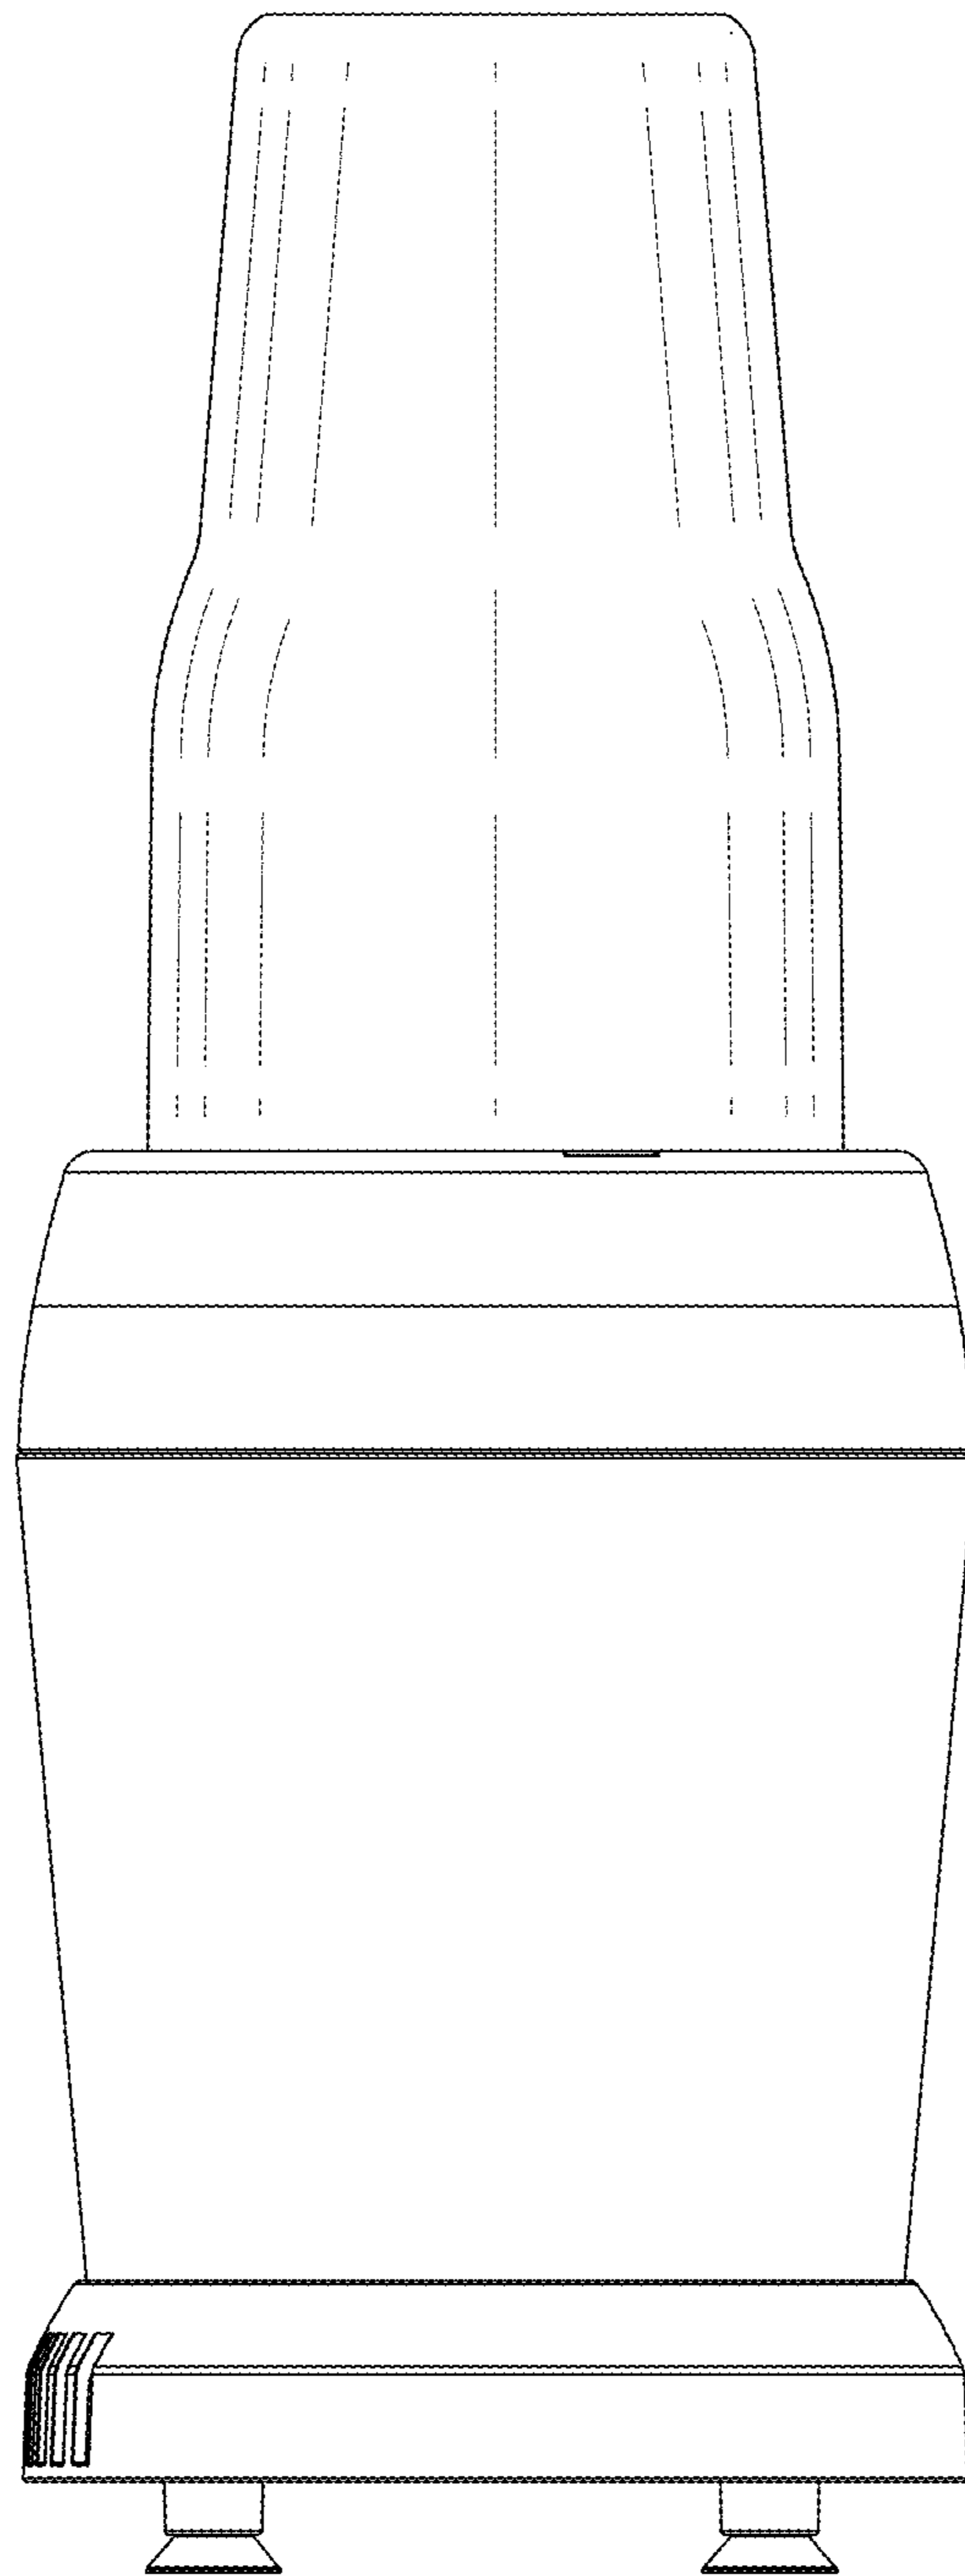

FIG. 4
- FIG. 4 is a left side view thereof.